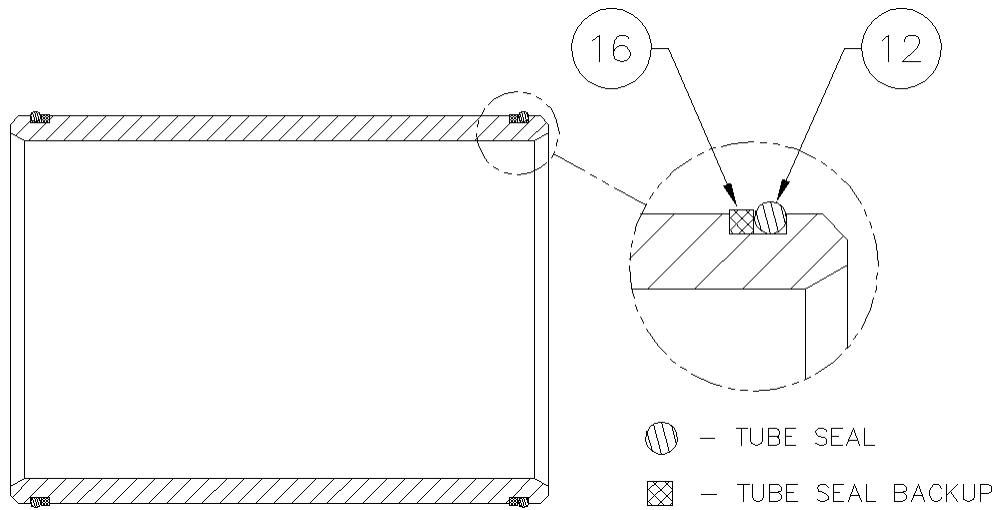
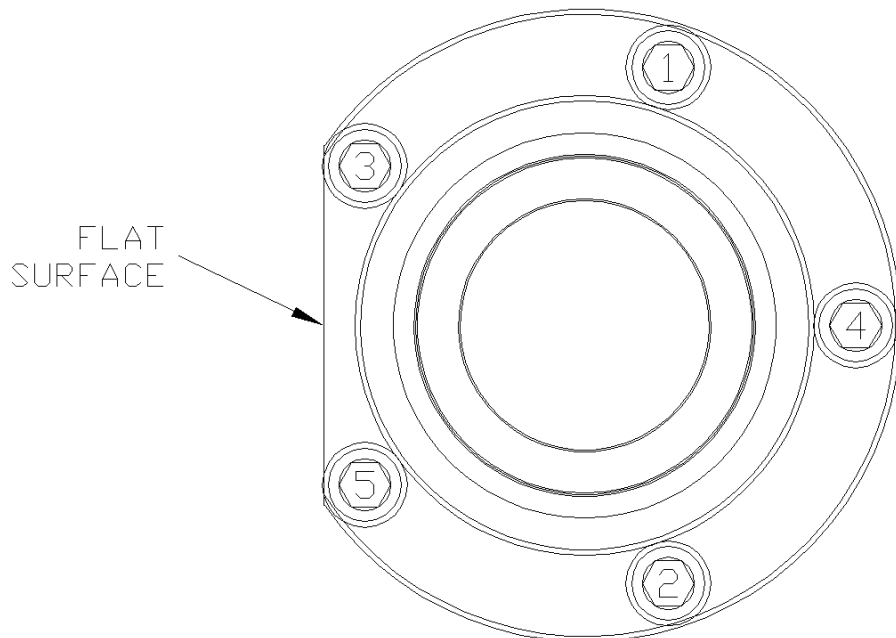
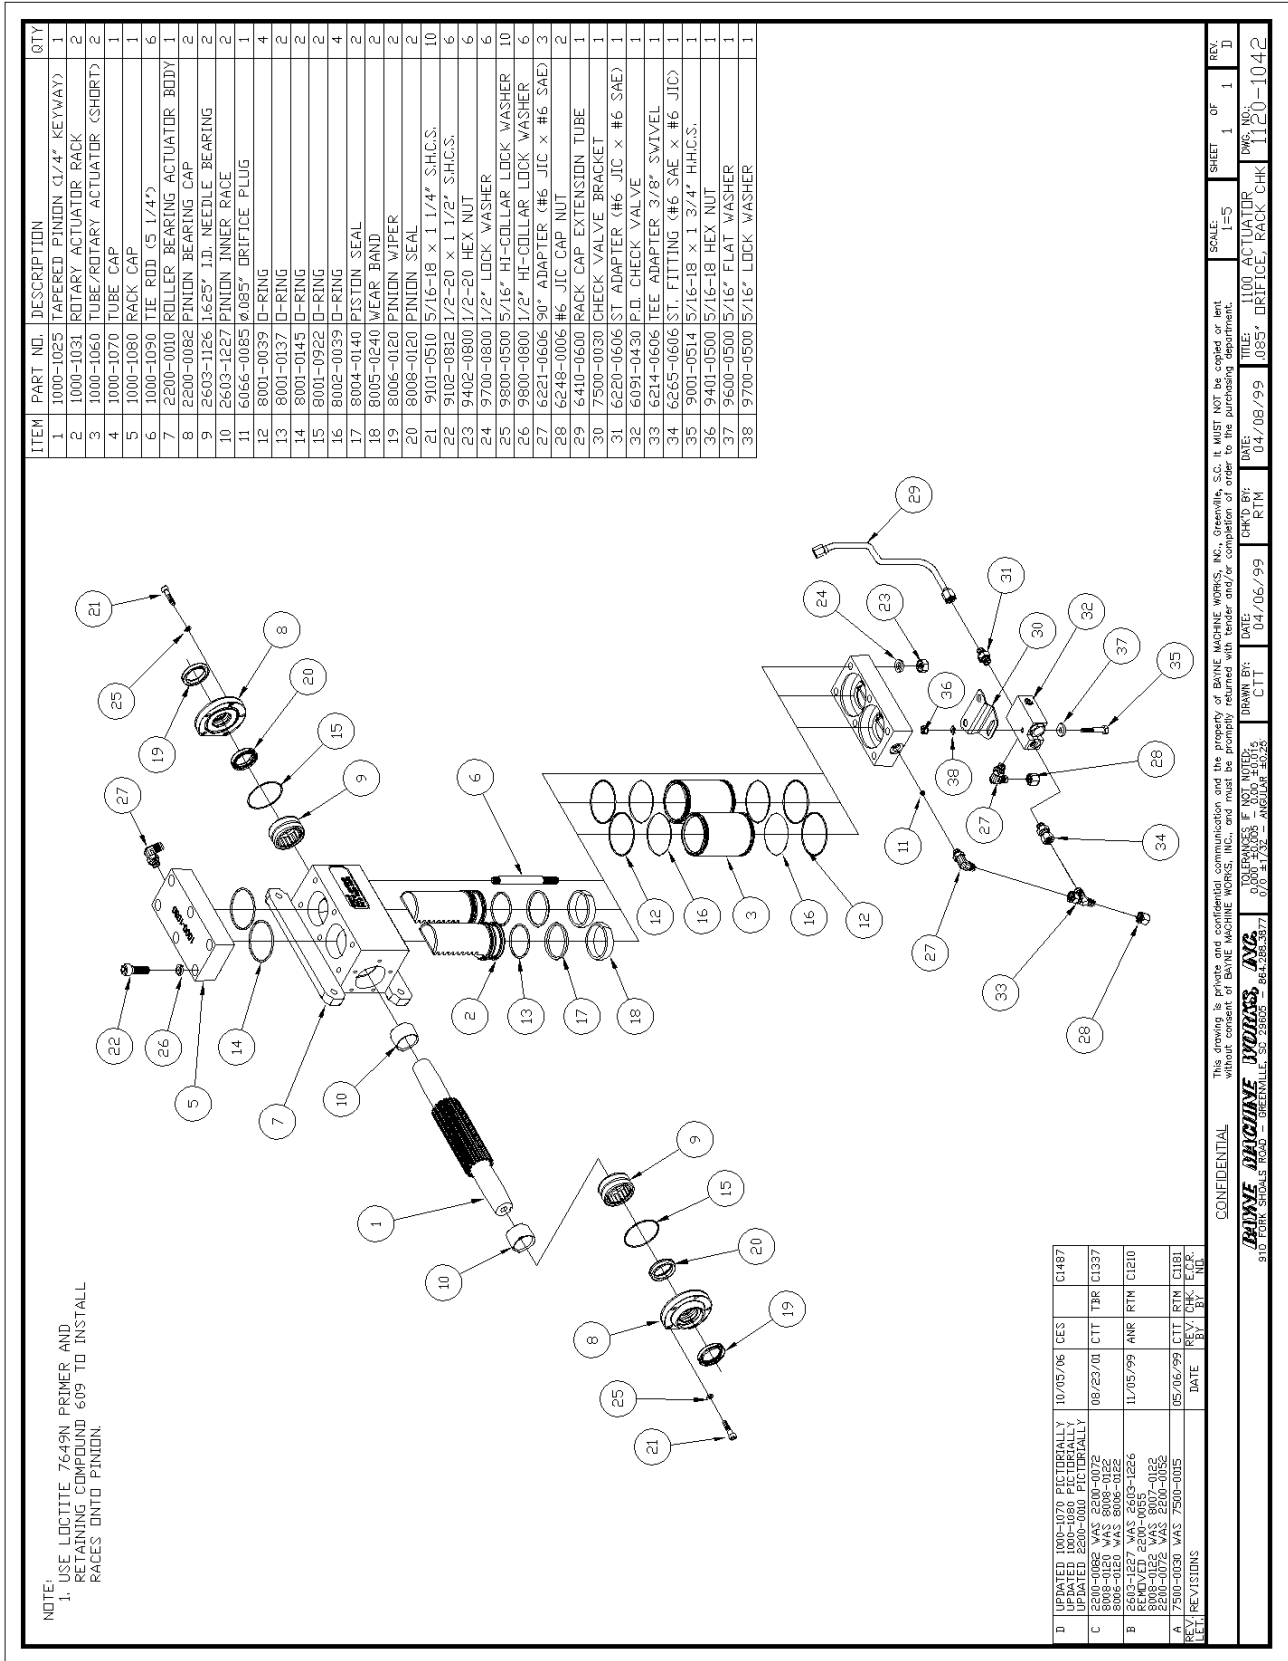

figure A-2
figure A-12
figure A-13
Before starting the assembly of the Rotary Actuator, refer to the exploded parts drawing and parts list (fig. A-13 found at the end of these instructions) to familiarize yourself with the individual components. Prepare a clean surface, in an area free of blowing dust and contaminants in which to assemble the Rotary Actuator. Be sure that all parts are thoroughly clean and dry before starting assembly.
2. Install the tube seal (12) (fig. A-2) and “square” tube seal backup (16) on each end of the actuator tubes (3) (fig. A-13). Be sure that the “square” tube seal backup ring is toward the inside of the tubes at both ends as shown. Press all rings firmly into the grooves. Repeat this procedure for the other tube.
- Coat the head portion of the racks (2) (fig. A-13) with STP Oil Treatment. Install the racks, head portion up with the teeth facing the flanges of the actuator body, into the dual set of bores in the body. Simultaneously slide the racks into the bores so that the racks mesh with the pinion in the same position. Rotate the pinion shaft to engage the racks into the pinion.
7. Coat one end of the actuator tubes (3) (fig. A-13) around the seal area with STP Oil Treatment as shown in figure A-7. Using a rubber mallet, drive the coated end of the tube onto the exposed rack until the tube end seats in the actuator body, making sure that the seals remain in place as the tube enters the counter-bore. Repeat this procedure for the other side.
8. Install the six tie rod studs (6) (fig. A-13) by screwing the short threaded end into the actuator body. Hand tighten only at this time (the torque needed will be applied later in the procedure).
9. Place the tube cap (4) (fig. A-13) on the table. Coat the sides of the two bores in the tube cap with STP Oil Treatment. Install the cap over the tubes and rod studs with the oil port positioned to the left as shown in figure A-13. Using a rubber mallet, tap the tube cap over the tubes until the tubes seat in the cap, making sure that the seals remain in place.
10. Place the check valve mounting bracket (30) (fig. A-13) over the end of the two rod studs closest to the oil port in the tube cap as shown in figure A-13.
11. Install the hex nuts (23) (fig. A-13) and lock washers (24) on the tie rod studs. Torque the nuts to 50 ft-lb. in the sequence shown in figure A-8.
12. Place the rack cap (5) (fig. A-13) bore side up on the table and coat the edge of each bore with STP Oil Treatment. Install the rack cap seals (14) (fig. A-9) in the rack cap.
13. Reposition the actuator on the table mounting flanges down, and the lower tubes facing away from the assembler. Rotate the pinion shaft to allow 1" of the rack to protrude from the top of the actuator body. Install the rack cap with the oil port positioned to the left hand side of the actuator opposite the bottom oil port located in the tube cap as shown in figure A-13. Attach the rack cap to the actuator body using the socket head bolts (22) (fig. A-13) and lock washers (26). Torque the bolts to 90 ft-lb. in the sequence shown in figure A-10.
15. Re-center the actuator pinion in the actuator body by tapping on one end of the shaft with a rubber mallet. Install the roller bearing (9) (fig. A-13), over the pinion shaft and inner race, and into the actuator body. Repeat this procedure for the other bearing.
18. Wrap masking tape or electrical tape around the pinion to cover the edges at the keyway. Slide the bearing cap assembly over the pinion shaft with the bearing cap seal facing toward the actuator body and the flat surface of the flange shown in figure A-12 facing toward the actuator mounting flanges. Press against the bearing cap until the shoulder seats against the actuator body, making sure that the seals remain in place. Install the bearing cap bolts (21) (fig. A-13) and lock washers (25). Hand tighten only at this time. Repeat this procedure for other bearing cap.
19. After both bearing caps have been installed, torque all bearing cap bolts to 30 ft-lb. in the sequence shown in figure A-12.
20. Bolt the check valve (32) (fig. A-13) to the check valve mounting bracket (30) with the 5/16" bolt (35), hex nut (36), flat washer (37), and lock washer (38) as shown in figure A-13.
21. Install the 90° adapter (27) (fig. A-13) into the oil port on the side of the rack cap (5). Hand tighten only at this time.
22. Install the straight adapter (31) (fig A-13) in the "C" port of the check valve (32).
23. Install the tubing assembly (29) (fig. A-13) between the 90° adapter in the rack cap and the straight adapter in the "C" port of the check valve.
24. Install the orifice plug (11) (fig. A-13) into the oil port on the side of the tube cap (4), and install the 90° adapter (27) into the oil port over the orifice plug as shown in figure A-13. Hand tighten only at this time.
25. Install the straight swivel adapter (34) in the "P" port of the check valve (32).
26. Attach the swivel tee adapter (33) (fig. A-13) to the 90° adapter (27) in the tube cap and the straight swivel adapter (34) in the "P" port of the check valve.
27. Install the 90° adapter (27) in the "V" port of the check valve (32).
28. Tighten all connections, and install the cap nuts (28) (fig. A-13) on the open adapters as shown in figure A-13 to prevent contamination of the unit until the hoses are connected.